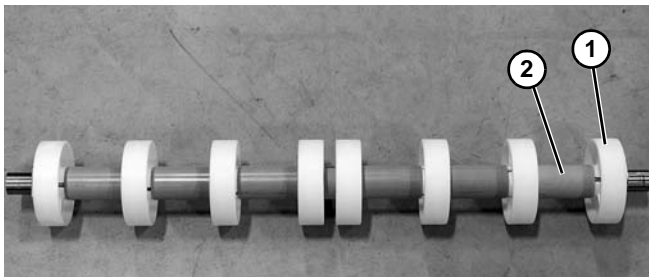

Figure 132
7. Remove pucks (**Figure 132, item 1**) and spacers (**Figure 132, item 2**) from the shaft. Repeat as needed.